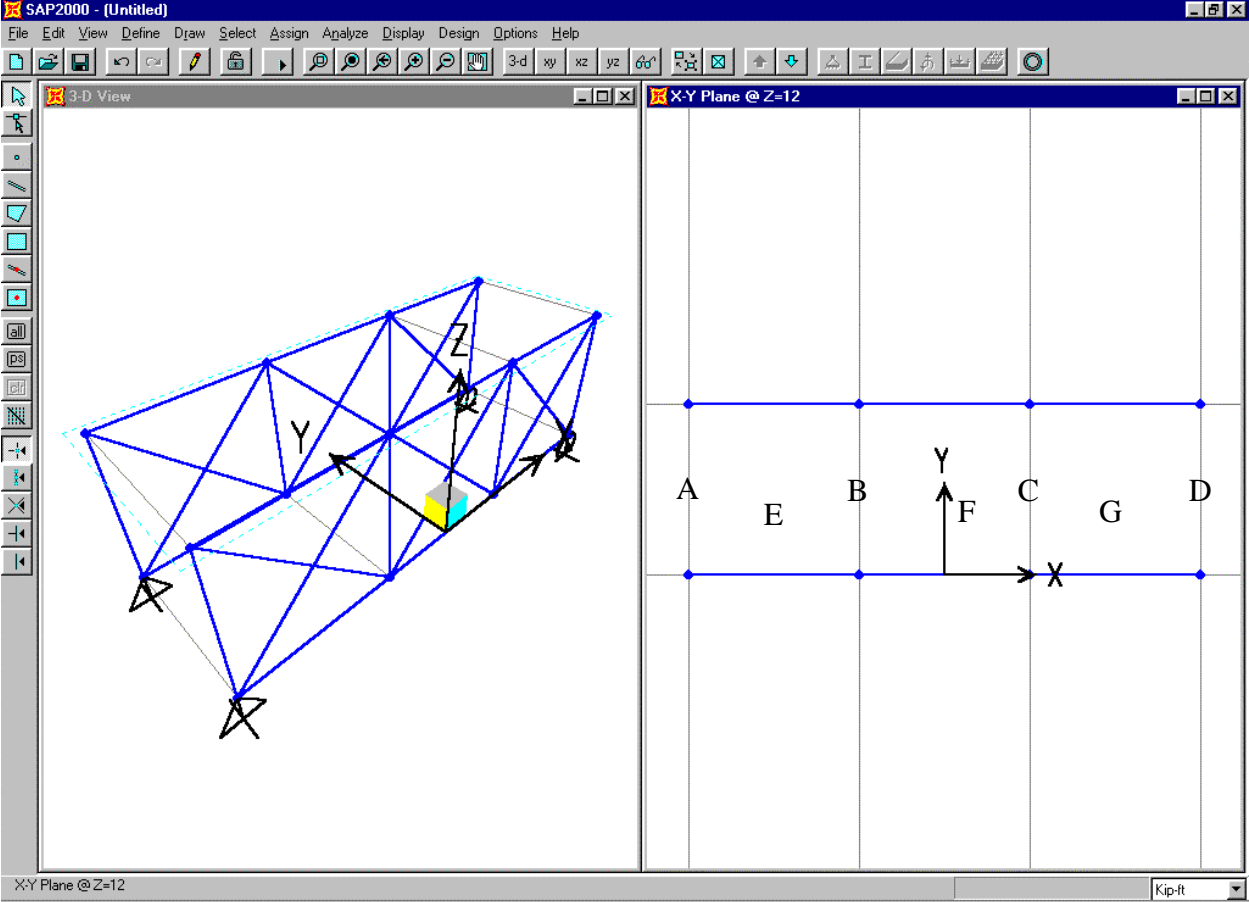

Figure X-1: View of Screen After Step 11
- 11. Click the **xy 2D View** button  to change the view to an X-Y plan. Note that the title of the window changes to X-Y Plane @ Z=12. The screen appears as shown in Figure X-1.
- 13. Click on the grid lines at the points labeled “A”, “B”, “C” and “D” in Figure X-1 to enter four frame elements spanning between the two vertical frames.
- 14. Click on the grid lines at the points labeled “E”, “F” and “G” in Figure X-1 to enter three sets of diagonal frame elements spanning between the two vertical frames.